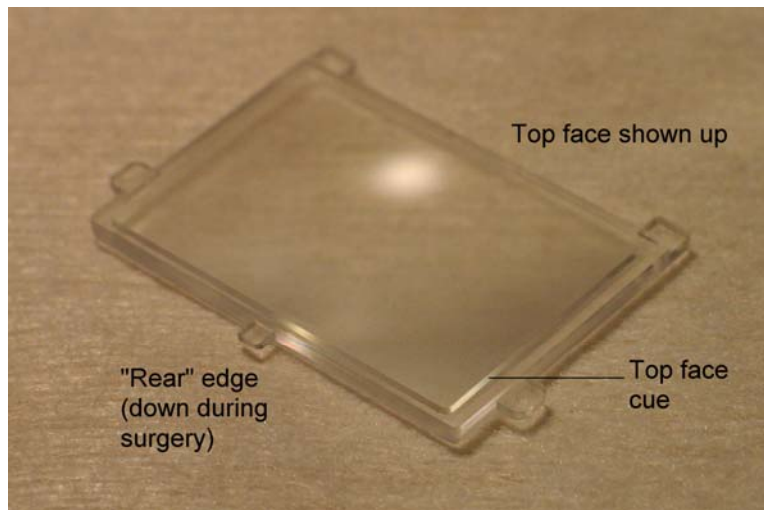

Figure 1. Standard 20D focusing screen
9. Set the new screen flat on the paper pad with the “top surface” up and the “rear edge” away from you. The top surface is the one that has a small “step” around its edges (as if there were a thin slightly smaller plastic rectangle on top of the main body of the screen). The rear edge is the long edge with a single tab at the center. See figure 1, which shows the standard 20D focusing screen: